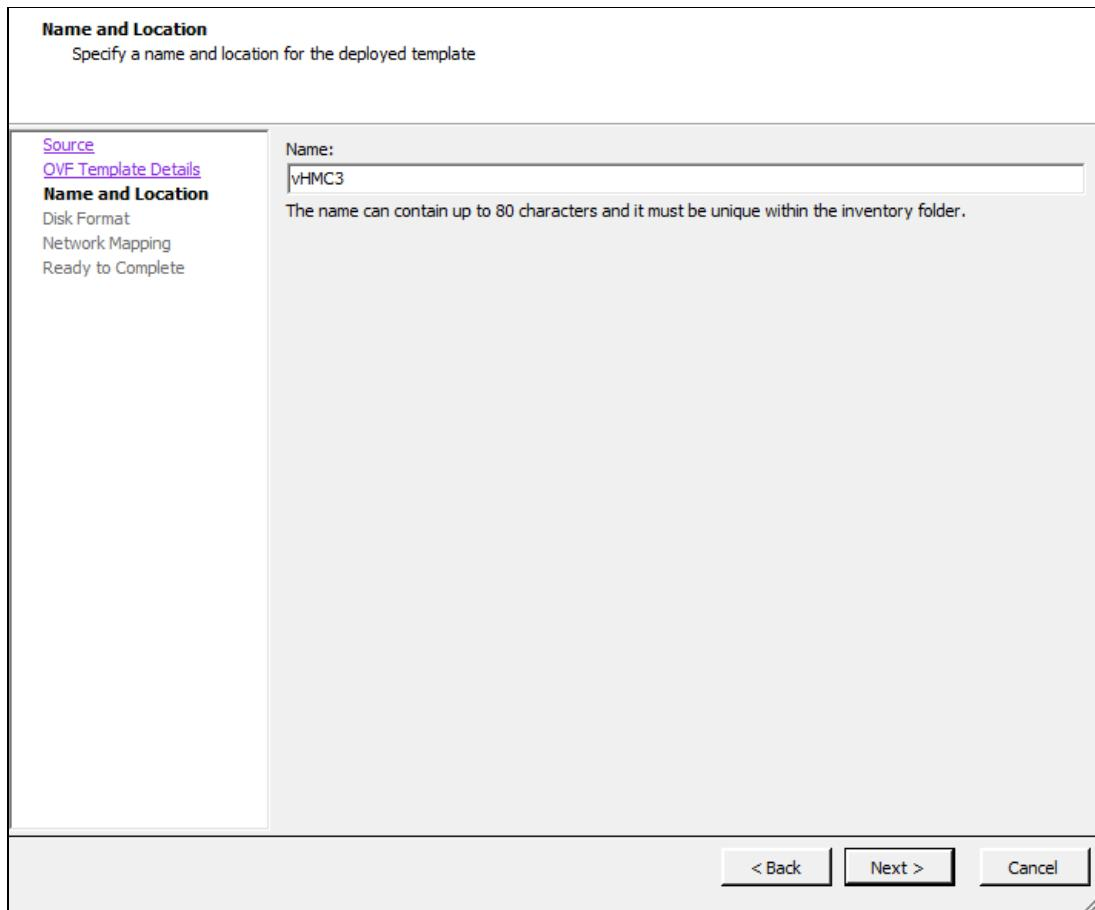

Figure 3-35 Name and location for the vHMC
5. In OVF Name and Location panel (Figure 3-35), enter a VM name, and click **Next**.